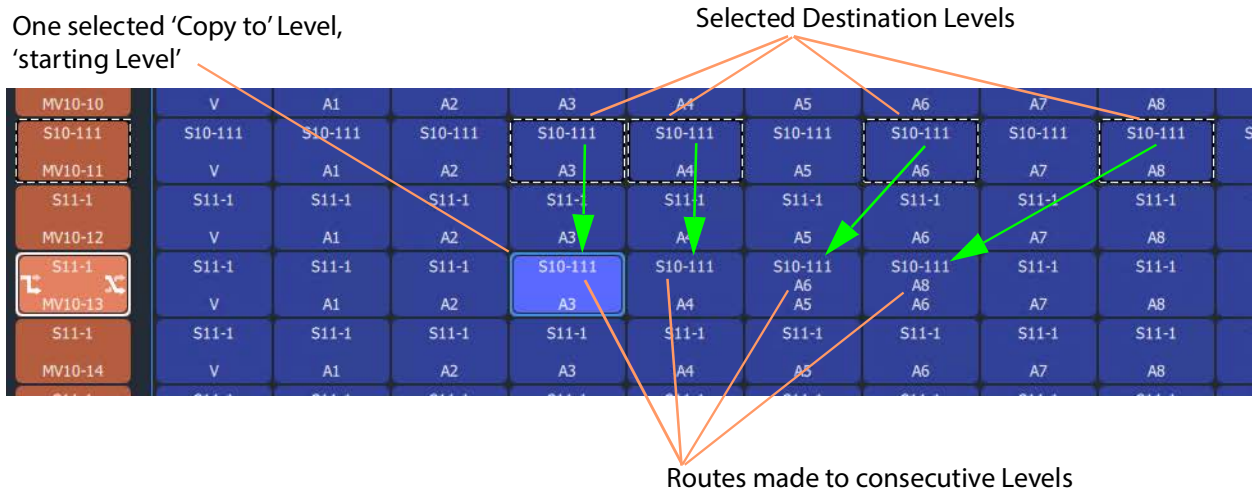

Fig. 12-87: Result of CTRL-V Paste
- 1 Select Destination Levels and copy them. For example, A3, A4, A6 and A8, see Figure 12-87.
See Figure 12-87 for the result of CTRL-V paste from the copied Destination Levels.